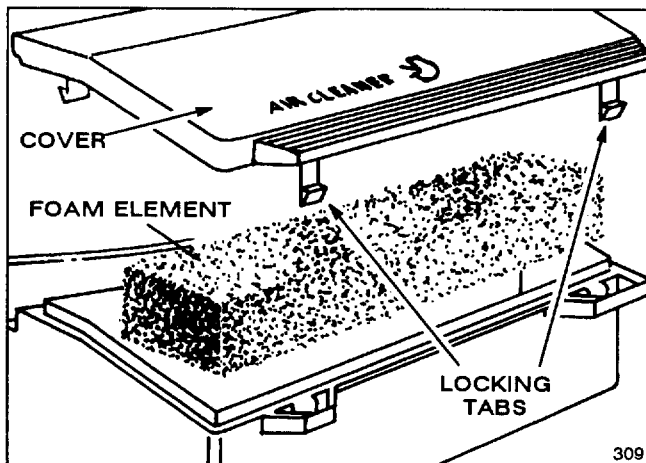

Figure 10
2. Push in locking tabs and lift off air cleaner cover. Clean cover thoroughly (Fig. 10).
3. If top of foam element is dirty, remove it from air cleaner body (Fig. 10). Clean thoroughly.